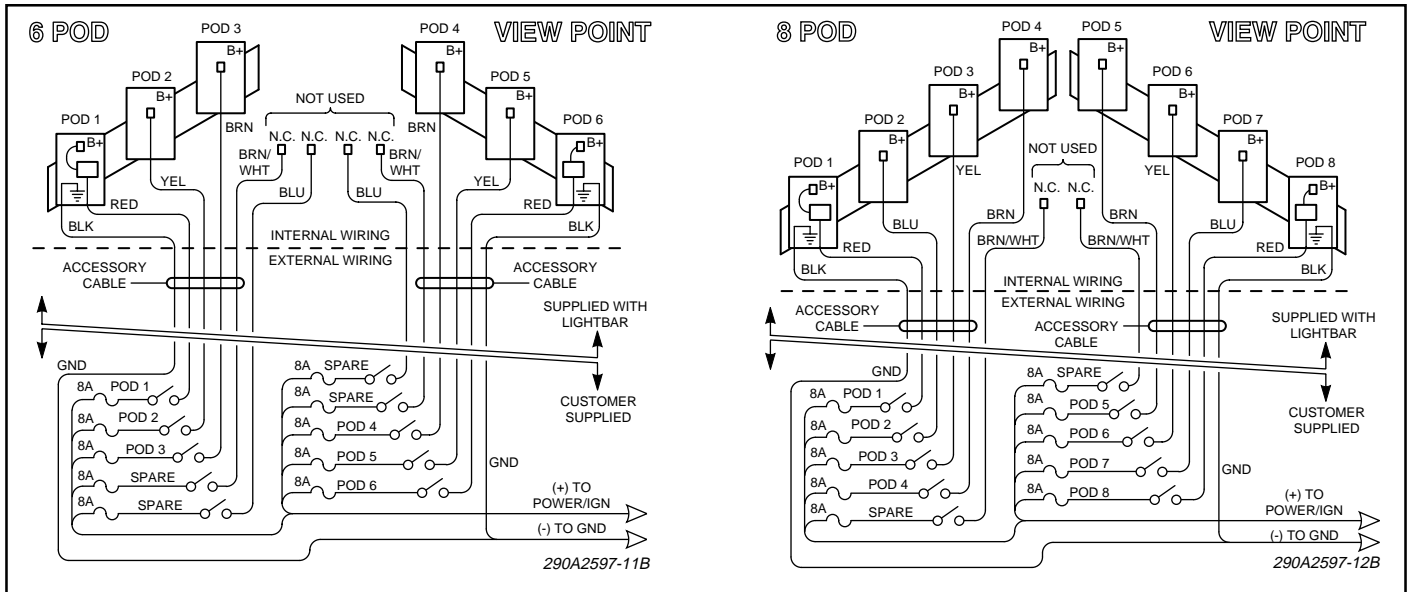

Figure 1.
B. For proper light operation, the light assembly control cables must be properly terminated inside the user-supplied control head. Using figure 1 as a guide, make the appropriate electrical connections. Ensure that the lines are adequately fused as shown in figure 1.
If control lines are combined for activation, calculate the total current requirement using the values shown in the appropriate diagram in figure 1.